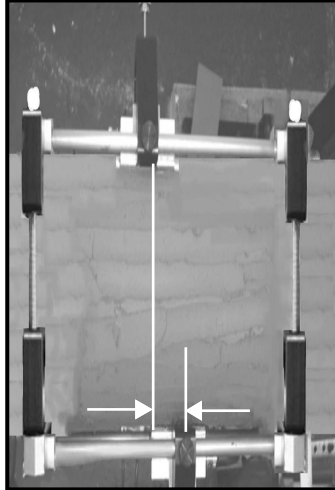

Figure 26: Distance Between Transducer Noses
2. Approximate the axial distance from one transducer face to the other transducer face, as shown in *Figure 26* below.
3. Lay the first strip of damping material flat. Cut a strip to a width equal to the distance between transducer faces (the distance illustrated in *Figure 26* above).